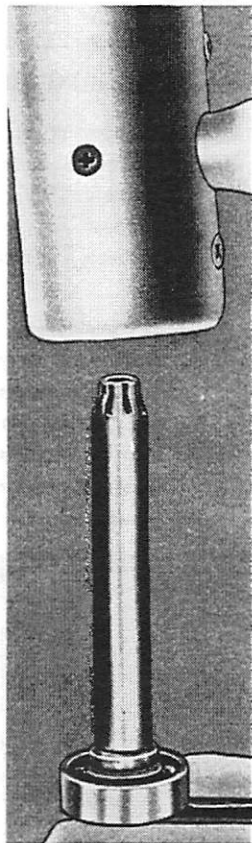

Figure 8. Installing Drive Shaft Ball Bearing
1. Place ball bearing on drive shaft. (Figure 8)